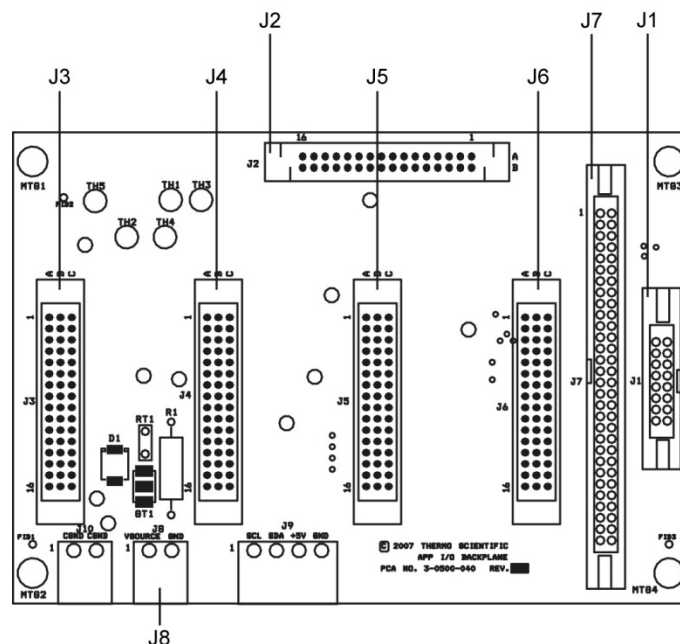

Figure 5–2. Connectors on the I/O expansion backplane
2. Refer to Figure 5–2, and plug the AI expansion board into the I/O expansion backplane at J2 and any terminal boards into the backplane at J3, J4, J5, and J6. Tighten the fasteners of each board installed.
4. Align the backplane assembly with the mounting holes in the chassis bracket, and secure the assembly with the four screws provided in the backplane kit (see Figure 5–1). Reference the general assembly drawing for mounting location and proper orientation.